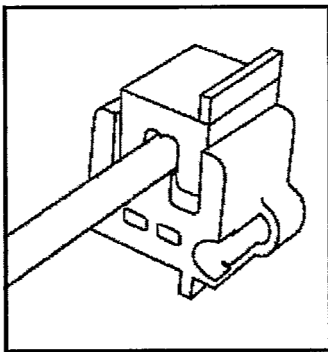

Figure 6
- Slide the other part of the Mini-Stripper-Crimper over the wire terminal and lightly press them together (Figure 6).